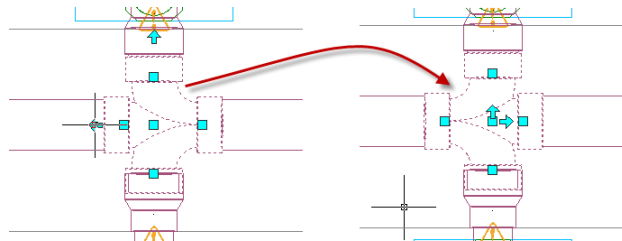

Figure 6.71
66. With the fitting still selected, simply select the flip grip to orient the fitting in the correct direction (see Figure 6.71).